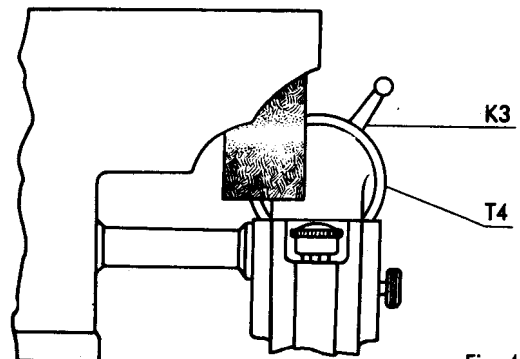

Fig. 4
1. Rotate swivel arm to set index drum T4 at zero, tighten clamping lever K3; set scale T2 at zero, tighten clamping lever K2 (Figs. 4 & 6).